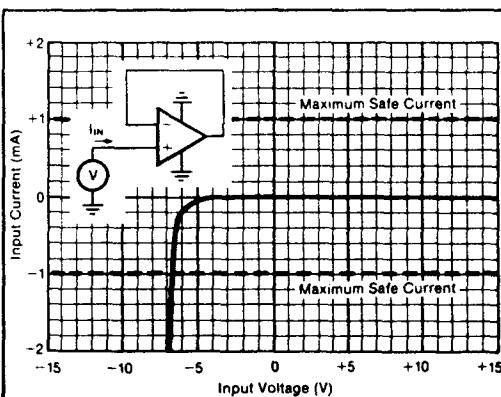

FIGURE 2. Input Current vs Input Voltage with $\pm V_{cc}$ Pins Grounded.
- (1) Packages must be derated based on $\theta_{JC} = 150^\circ\text{C}/\text{W}$ or $\theta_{JA} = 300^\circ\text{C}/\text{W}$.
- (2) For supply voltages less than ±18VDC the absolute maximum input voltage is equal to $+18V > V_{IN} > -V_{OC} - 6V$. See Figure 2.
- (3) Short circuit may be to power supply common only. Rating applies to +25°C ambient. Observe dissipation limit and T_A .